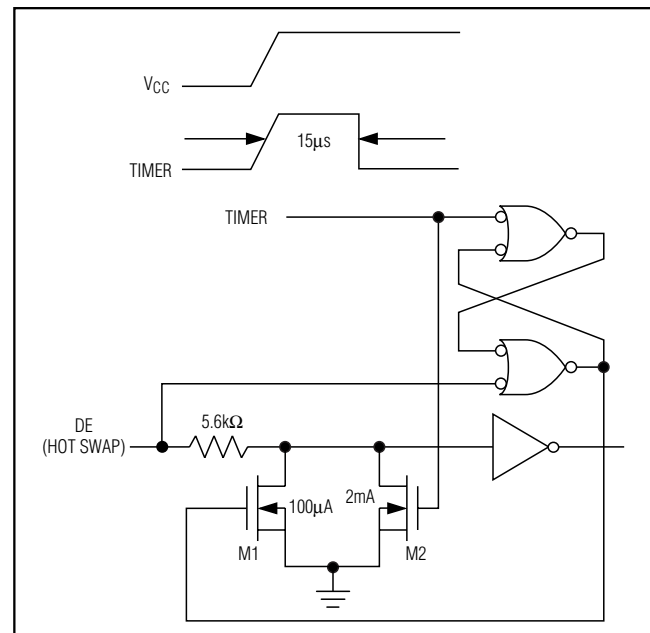

Figure 10. Simplified Structure of the Driver Enable Pin (DE)
At the driver-enable input (DE), there are two NMOS devices, M1 and M2 (Figure 10). When VCC ramps from zero, an internal 15 μs timer turns on M2 and sets the SR latch, which also turns on M1. Transistors M2, a 2mA current sink, and M1, a 100 μA current sink, pull DE to GND through a 5.6k Ω resistor. M2 pulls DE to the disabled state against an external parasitic capacitance up to 100pF that may drive DE high. After 15 μs , the timer deactivates M2 while M1 remains on, holding DE low against tri-state leakage currents that may drive DE high. M1 remains on until an external current source overcomes the required input current. At this time, the SR latch resets M1 and turns off. When M1 turns off, DE reverts to a standard, high-impedance CMOS input. Whenever VCC drops below 1V, the input is reset.